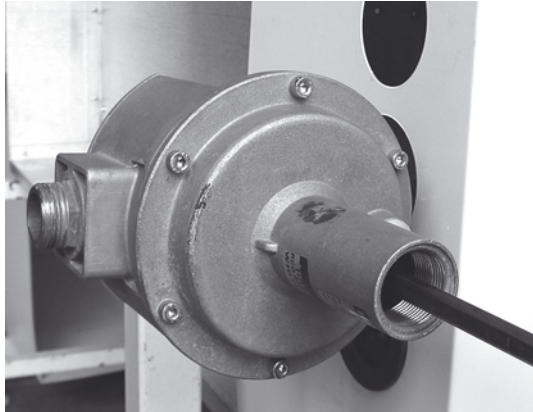

Fig. 14
- Place the tube of the "accurate" manometer on the **Inlet** pressure port (figure 14) of the Gas Regulating Valve after having loosened the screw by one turn.